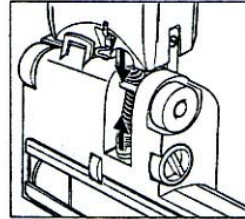

Figure 12
- The connecting hose can be removed by pulling out both ends. Remove blockage. <Figure 12>